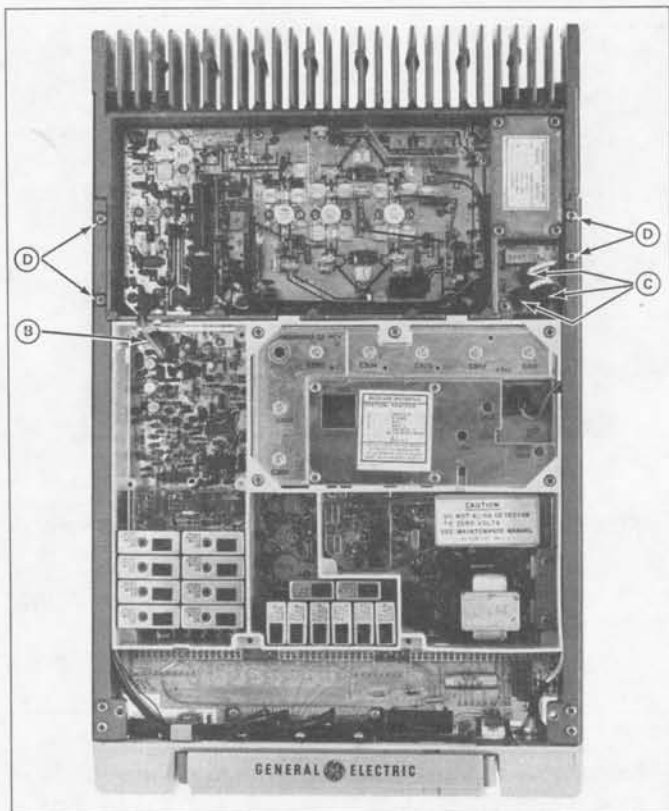

FIGURE 2 - DISASSEMBLY PROCEDURE TOP VIEW
2. Remove the top cover, then loosen the two bottom cover retaining screws and remove the bottom cover (See Figure 2).
1. Unplug the exciter/PA cable (B). (Figure 2).
To remove the PA assembly: (See Figure 2).